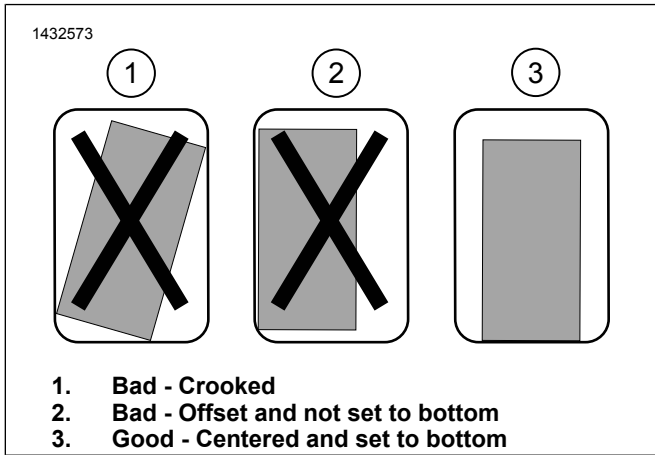

Figure 4. Mount Bracket Installation
- a. See Figure 4. Test fit mount bracket assembly. Bracket must be straight, centered, and as close to the bottom of the saddlebag as possible.
- c. See Figure 4. Test fit for final location ensuring bracket is straight, centered, and as close to the bottom of the saddlebag as possible.